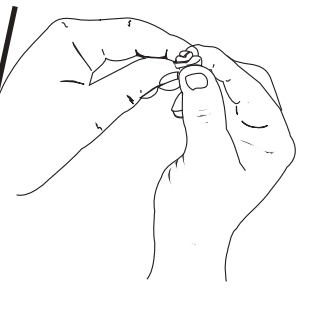

FIGURE 25
5. Squeeze the filter to spread and remove excess oil, Figure 25.